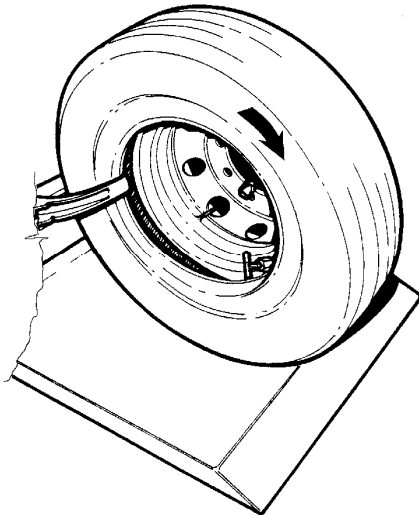

Fig.34
2. Position the mounting hook about 3/4" (1.5 cm) to the inside of the rim edge and 1/2" (1 cm) away radially. Rotate the chuck clockwise. Normally less than 1/4 of a revolution is sufficient to mount the first bead (Fig.34).